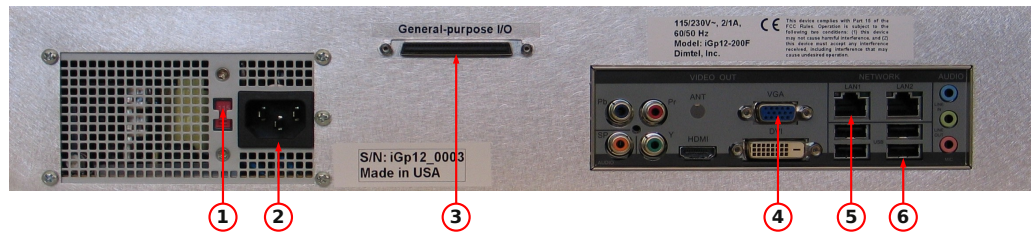

Figure 3: Rear panel features
WARNING: Before connecting power to the unit make sure the voltage selection switch (Fig. 3, item 1) is in the correct position (115 or 230 V).
1. Configure voltage selection switch (Fig. 3, item 1). Mains supply requirements for the iGp12-200F are listed in Table 10;
7. Connect a USB keyboard (Fig. 3, item 4);
8. Connect a video monitor (Fig. 3, item 5);
Setup program is included in the IOC for configuring the important features of the iGp12-200F. The program can be executed locally or remotely. For local execution one must first connect a keyboard (Fig. 3, item 4) and a video monitor (Fig. 3, item 5) to the system. For remote setup, use `ssh` after system bootup to establish connection. In both setup methods the user must login as `root` (initial password is supplied with the system). If the newly received iGp12-200F must be configured remotely (when, for example, a keyboard or a monitor is not available), such configuration can be performed using a dedicated network. Set up a network consisting of the iGp12-200F, a network hub or a switch, and a remote computer. The iGp12-200F is delivered with the following network configuration:
- Make sure no cable is connected to the general-purpose digital I/O port (Fig. 3, item 3);